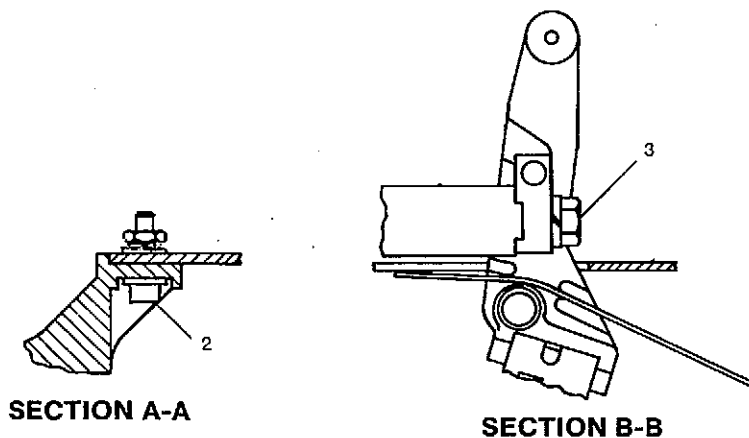

FIGURE 12. TRANSFER SWITCH FRONT COVER
1. Open the transfer switch cabinet door and unplug the three control wiring harness plugs (J1, J2, & J3 - Refer to Figure 12) from the front cover.
5. Remove the socket head capscrews, flat washers, lock washers, and nuts that secure the actuator to the switch assemblies (see Figure 12). Note the ground wire connection to lower left cap screw.
- Secure actuator motor to switch assemblies using socket head capscrews (4), flat washers (8), lock washers (4), and nuts (4). Be sure to reconnect ground wire to lower left screw (see Figure 12). Tighten capscrews to 25 to 30 in-lbs (2.8 to 3.4 N•m) torque.